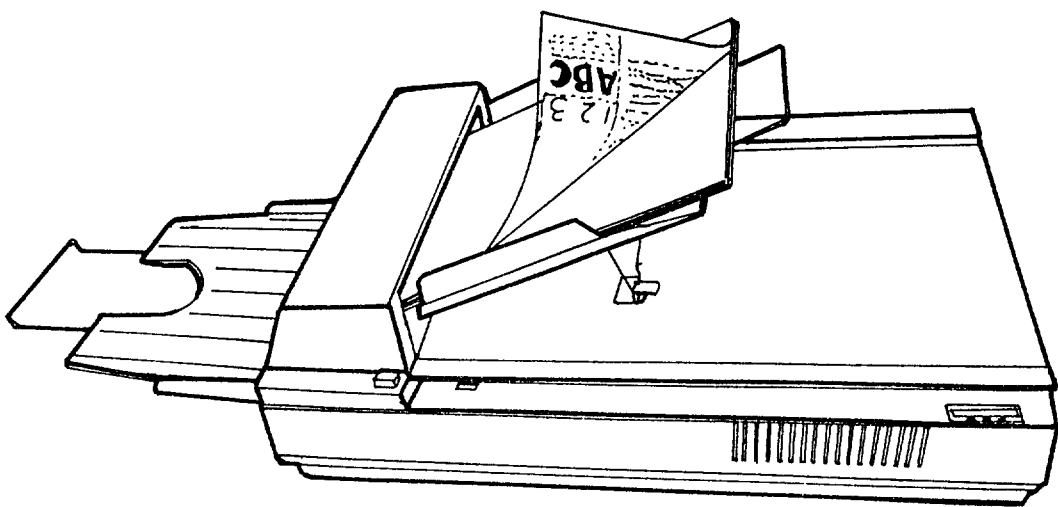

Figure 3.4 ADF scanning
1. Place the document face down in the input paper chute. (Refer to Figure 3.4 in the next page.)